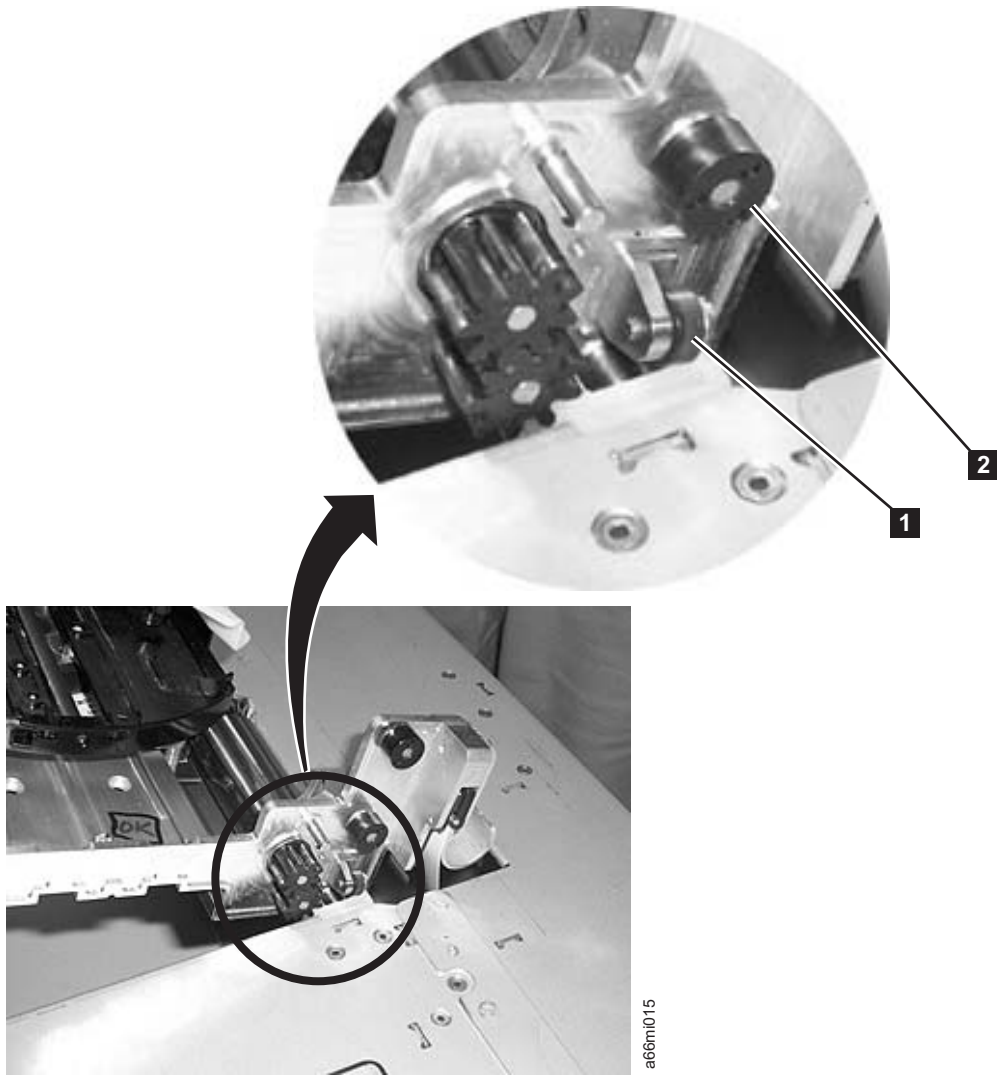
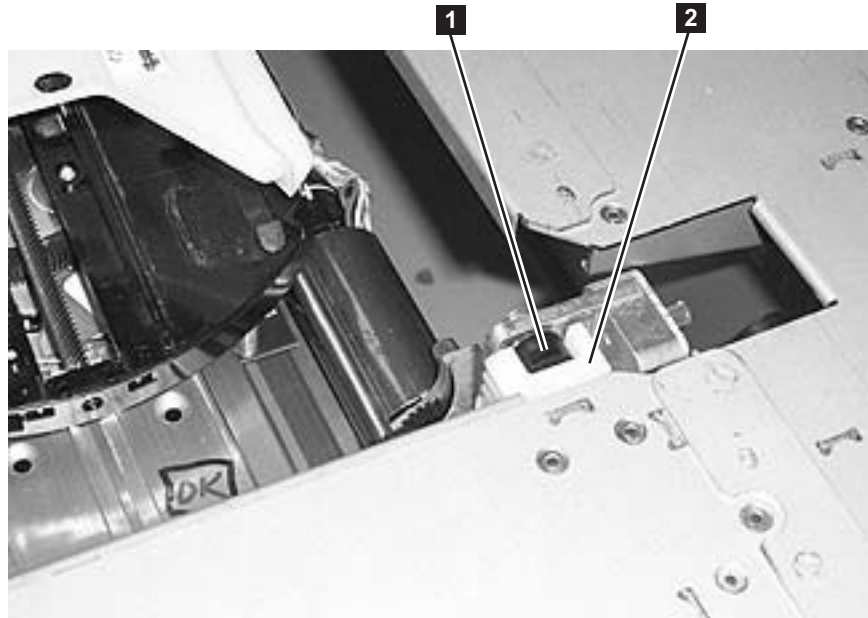

Figure 8-46. Guide rollers on Y-axis/Picker Assembly
Figure 8-47. Y-axis/Picker Assembly rollers inserted in gear rack track
6. Lower the Y-axis/Picker Assembly by tilting its gears at a 45° angle onto the top of the front and rear gear racks (see Figure 8-46 on page 8-50 and Figure 8-47 on page 8-51). **BE VERY CAREFUL TO START BOTH Y-AXIS/PICKER ASSEMBLY GEARS TOGETHER TO ENSURE THE Y-AXIS/PICKER ASSEMBLY IS LEVEL.** After lowering the Y-axis/Picker Assembly a few teeth, verify that the Y-axis/Picker Assembly is level with the library chassis. If it is not level, remove the Y-axis/Picker Assembly and reinsert.